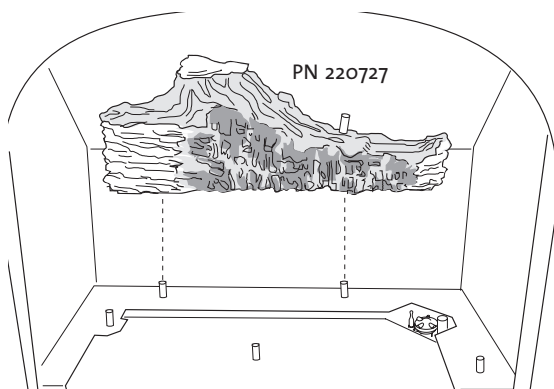

Figure 11. Install rear log.
1. Engage the holes in the underside of the rear log with the two pegs in the burner skirt as in fig. 11.